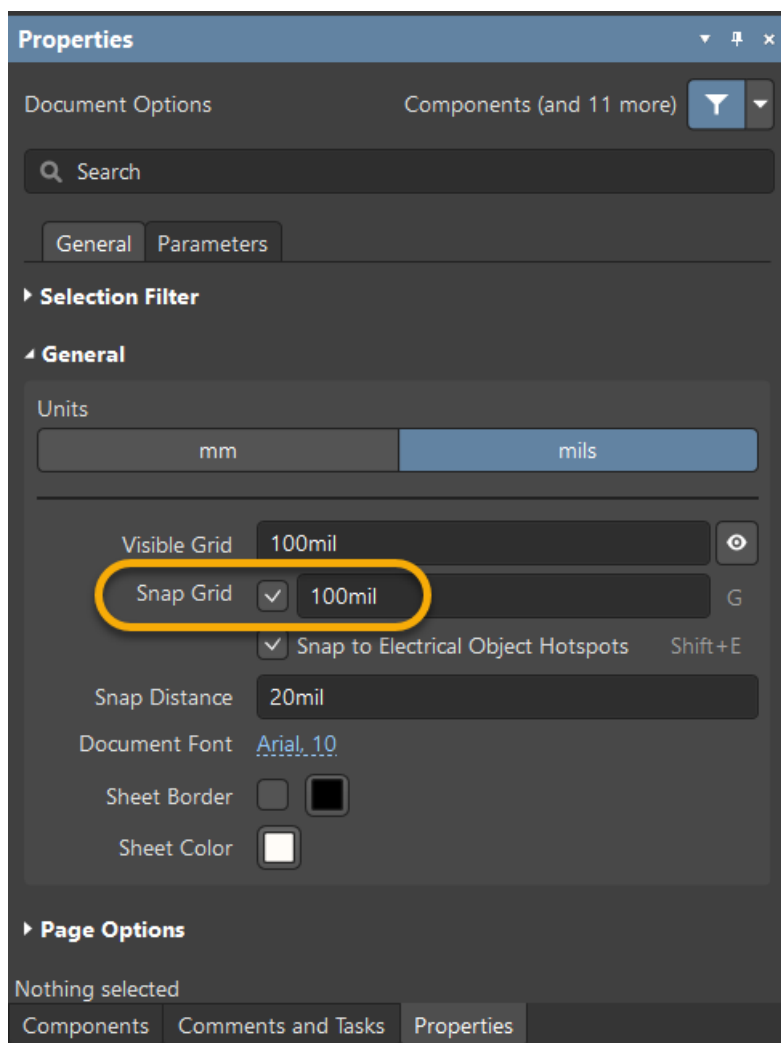

Figure 2. Set the Snap Grid to 100mil
- b) In the *General* tab, check that **Snap Grid** value is `100mil`, as shown in Figure 2. If the **Snap Grid** Value is different, change the value to `100mil`.